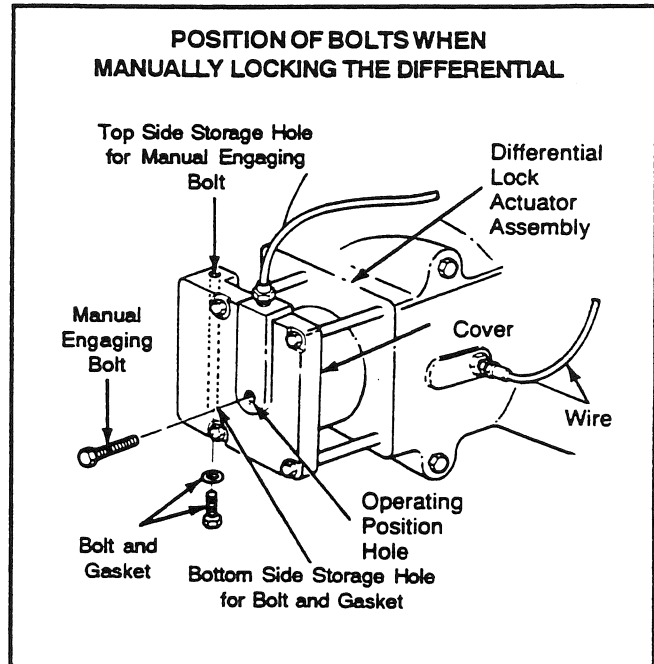

Fig. 6
2. Use the manual engaging method to lock the differential (see Fig. 6).